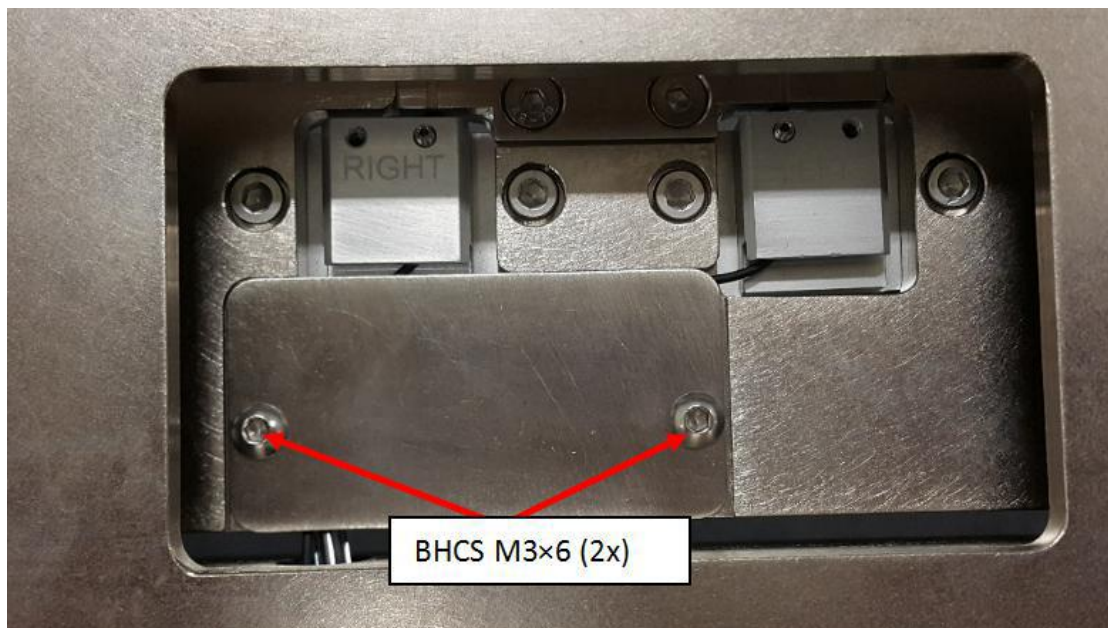

Figure 4 Sensor 4 Emitter
2. Open BHCS M3×6 (2x) as shown in Figure 4 at adjustable rail (Near to right outer barrier)